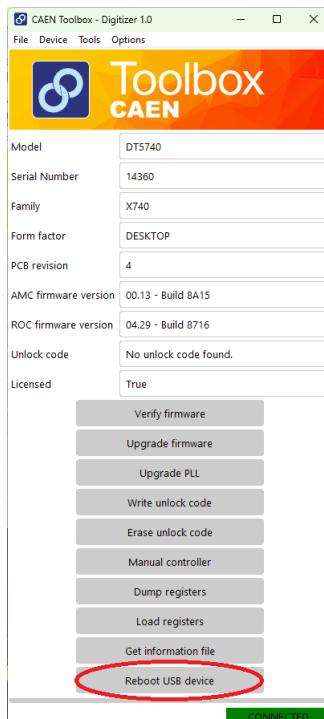

Fig. 13.1: Reboot USB device in CAEN Toolbox
- force the board to reboot loading the copy of the firmware stored on the BKP page of the FLASH. To do that, make sure to connect by USB link and use the Reboot function in CAEN Toolbox software and then click on the "Reboot USB device" button (Fig. 13.1);